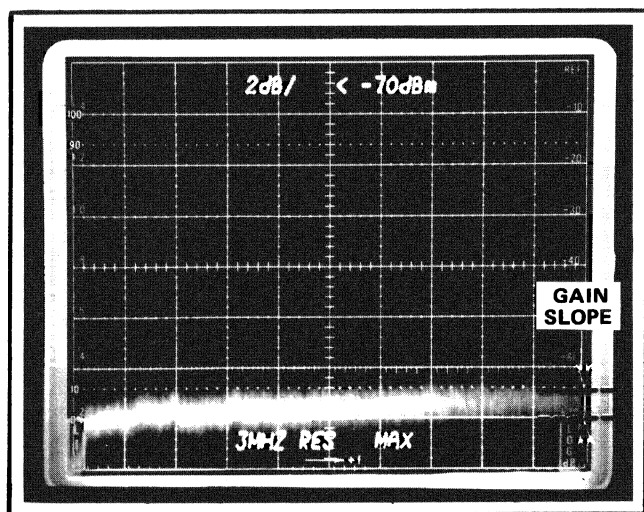

Fig. 3-3. Average noise level or gain increases as the frequency approaches 1.8 GHz. Maximum slope is 4 dB at 1.8 GHz.
h. Adjust the VARIABLE Gain control to position the average noise level so the gain slope, over the 1.8 GHz span, can be observed (see Fig. 3-3). The gain can increase to 2 dB at 1700 MHz plus an additional 2 dB (for a total of 4 dB) at 1800 MHz maximum.